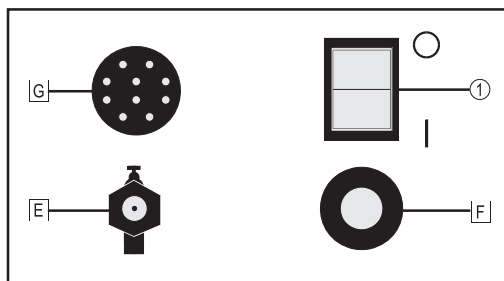

Fig. 5 Rear side of the machine
(1)	Mains ON / OFF switch (see Fig.5)
(2)	Digital-Ammeter Indicator of the main current Command value -> desired welding current Actual value -> actual welding current
(3)	Digital-Voltmeter Indicator of the welding voltage
(4)	Function button  a) 2-step operation -> TIG welding with HF-ignition  b) 4-step operation -> TIG welding with HF-ignition  c) 2-step operation -> TIG welding with contact ignition  d) 4-step operation -> TIG welding with contact ignition <ul style="list-style-type: none"> - Arc force control and hot-start devices are out of action - When the TR 50mc, TR 51mc and TR 52mc remote-control units are used, the system switches over to the operating mode in question automatically - LED indicators (7) or (8) resp. (6) + (7) or (6) + (8) lights up